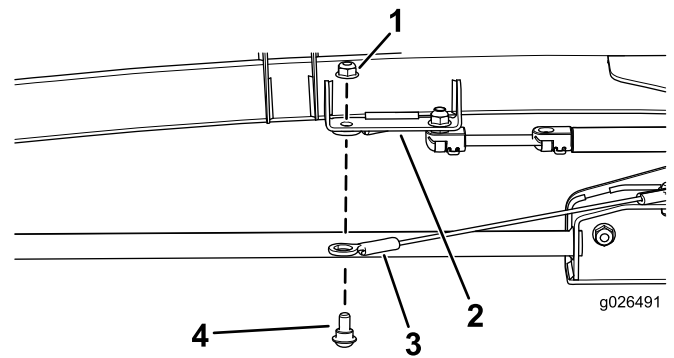

Figure 7
2. Assemble the other end of the lanyard to the cab frame forward-strut-bracket hole with a shoulder bolt (5/16 x 1/2 inch) and a locknut (5/16 inch) as shown in Figure 7.